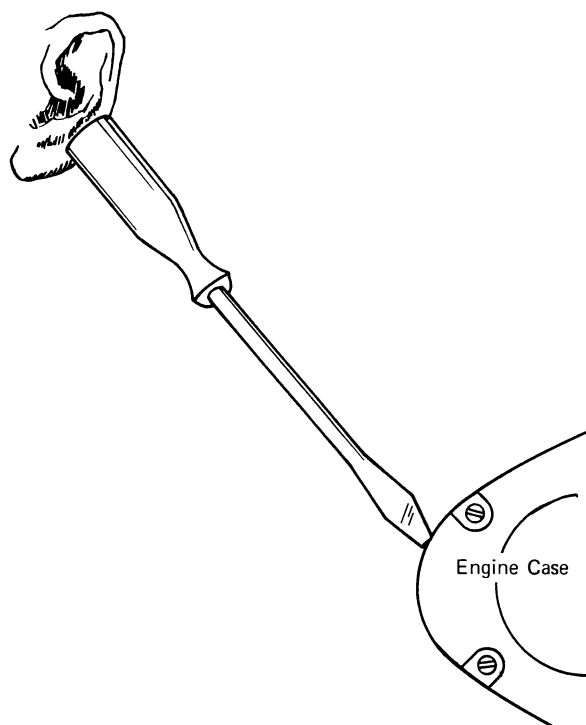

Fig. 12-6 Listening to a running engine
**Noises.** Pounding, rattling noises are usually the first indication of worn out lower-end bearings. These bearings operate under very heavy pounding loads. Excessive clearances and resultant up-and-down play in rods or main bearings will result in harsh pounding sensations that can be felt throughout the machine. Left unattended, these loose bearings could shatter and lock up the crankshaft. It is important to localize the source of any abnormal engine noise. There are many other parts in the engine that could make noises similar to a loose or scored lower-end bearing. A mechanic's stethoscope is very useful in localizing engine noises. Lacking a stethoscope, a long screwdriver can be held to the engine, (Fig. 12-6) the handle to the ear, and the tip moved around the engine to find where the noise seems loudest.